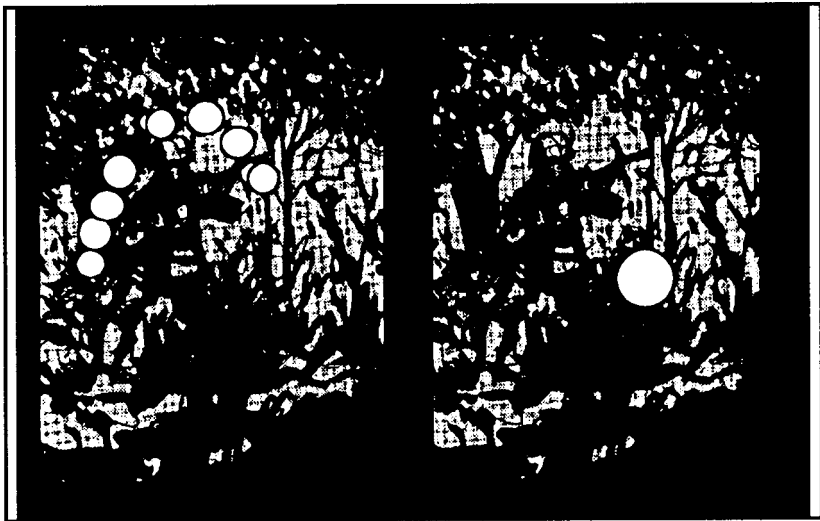

Figure A-3. Off-center viewing technique.
b. **Use of Off-Center Vision.** The method of viewing an object using central vision is ineffective at night. This is due to the night blind spot that exists during low illumination. Soldiers must learn to use off-center vision. This method requires viewing an object by looking 10 degrees above, below, or to either side of it rather than directly at it (Figure A-3).